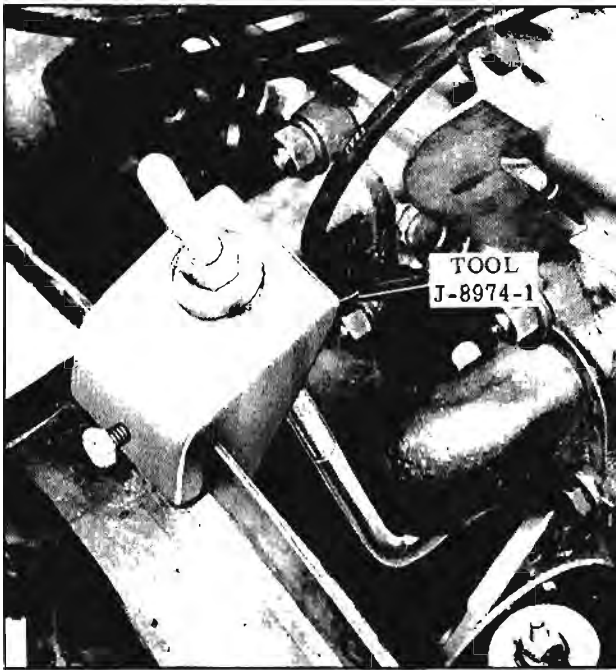

Fig. 8-123 Engine Support Tool
2. If all bearings are being removed, it will be advantageous to disconnect engine mounts and raise the engine one or two inches with Tool J-8974. (Fig. 8-123)